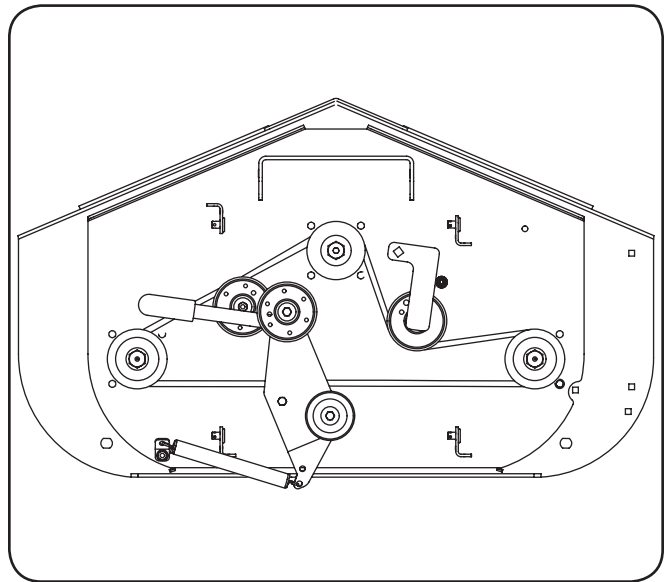

Figure 7-5
- Reverse the process to install the belt. See Figure 7-5 for proper belt routing.